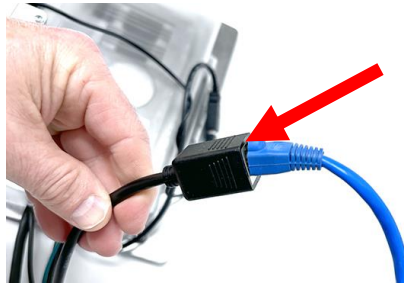

Figure 14
12. If connecting using ethernet, route the ethernet cable to the rear of the Vat #1 controller ethernet connection and connect to the controller (see Figure 14).